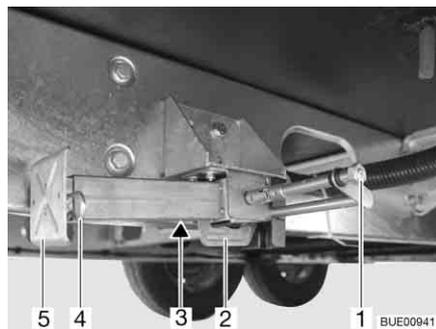

Fig. 25 Steady leg
- Place the socket spanner on the hexagonal nut (Fig. 25,1) and rotate until the steady leg is in a perpendicular downward position.
- If the length of the steady leg can be adjusted, remove the splint (Fig. 25,4) out of the support foot extension (Fig. 25,5).
- Place the socket spanner on the hexagon nut (Fig. 25,1) and rotate until the steady leg is clear of the ground.
- Push in the support foot extension (Fig. 25,5) and insert the splint (Fig. 25,4) in the drilled hole in the support foot extension.
- Rotate the hexagonal nut (Fig. 25,1) until the steady leg has swung upwards and the guide (Fig. 25,2) has reached the very end of the slot (Fig. 25,3).